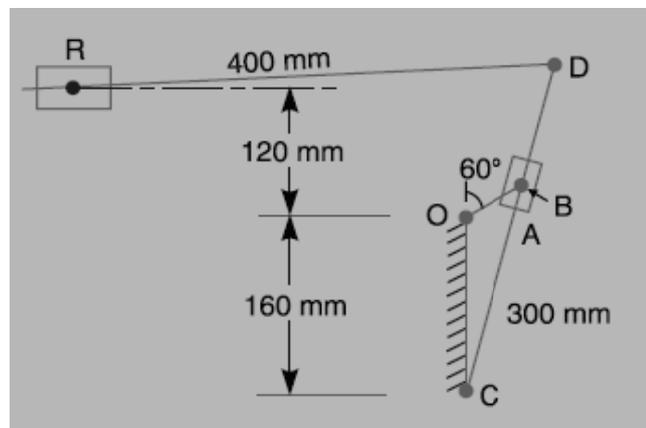

Fig.3
- c. In a quick return mechanism, as shown in Fig.3, the driving crank OA is 60 mm long and rotates at a uniform speed of 200 r.p.m. in a clockwise direction. For the position shown, find